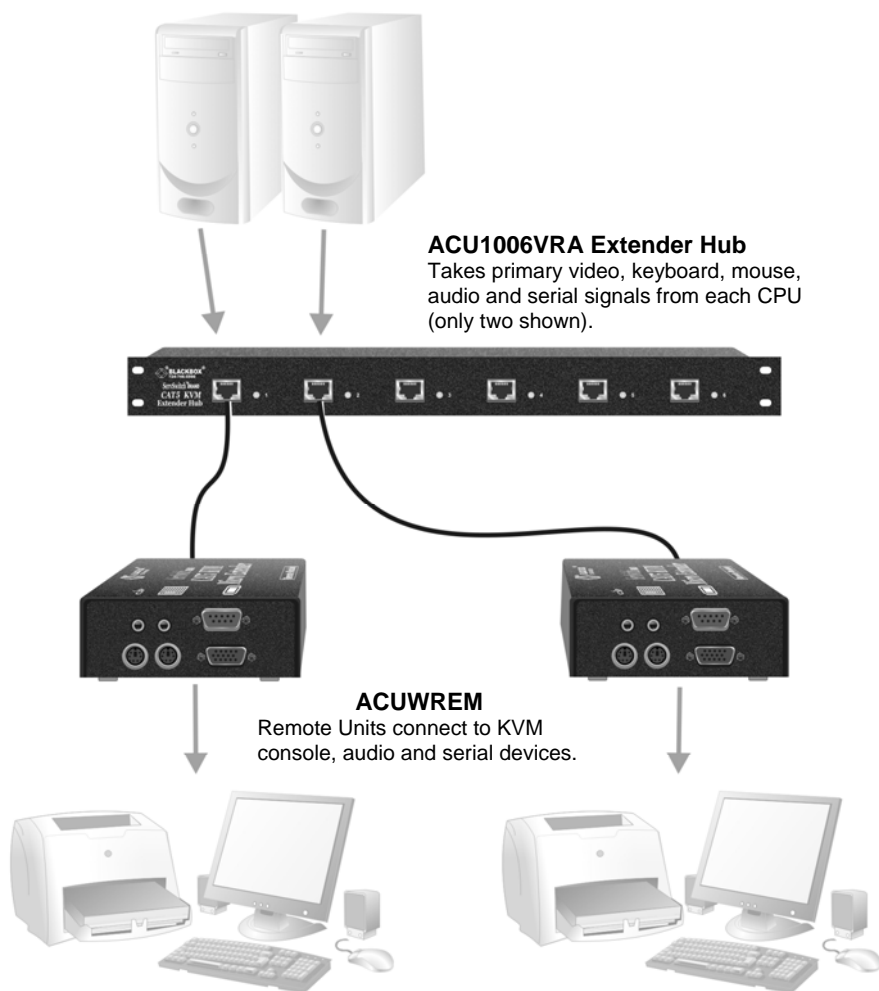

Figure 9
- Simple system using ACU1006VRA Hub and ACUWREM Remote Units to extend audio, serial and KVM for up to six PCs (Figure 9).